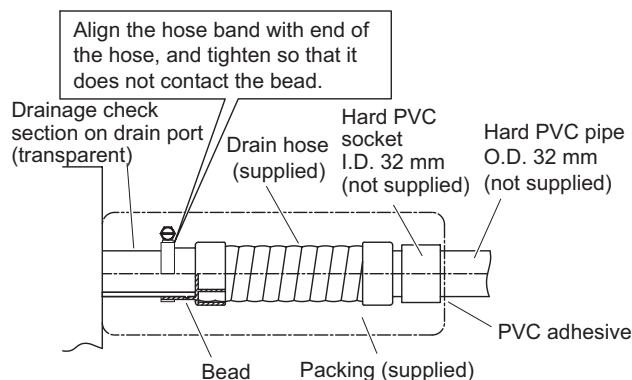

Fig. 2-183
The unit's transparent drain port allows you to check the drainage. (Fig. 2-183)
- Insert the drain pipe until it contacts the socket, as shown in Fig. 2-183, then secure it tightly with the hose band.
- Tighten the hose clamps so their locking nuts face upward. (Fig. 2-183)